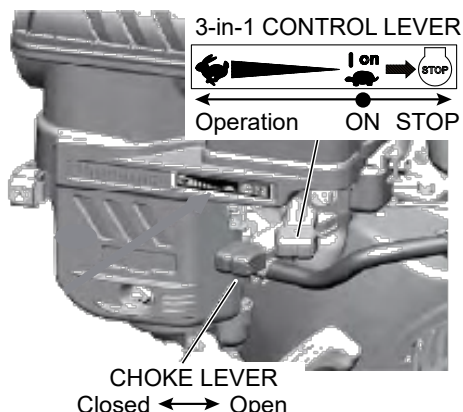

Figure 11. Engine 3-in-1 Control Lever (ON)
2. Place the 3-in 1 control lever (Figure 11) to the "ON" position. The "ON" position means:
3. Move the choke lever (Figure 11) to the "CLOSED" position if starting a cold engine. To restart a warm engine, leave the choke lever in the "OPEN".
6. If the choke lever was moved to the **"CLOSED"** position to start the engine, gradually move it to the **"OPEN"** position (Figure 11) as the engine warms up.